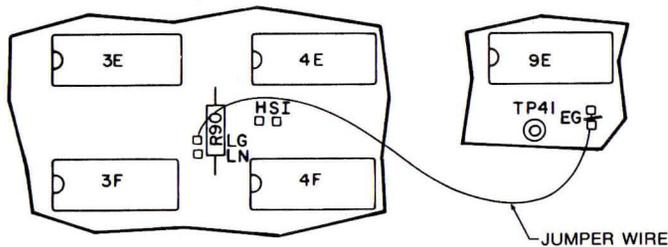

FIGURE 3-23. ERASE GATE
2. Add jumper wire from EG pad to LG pad as shown in Figure 3-23.